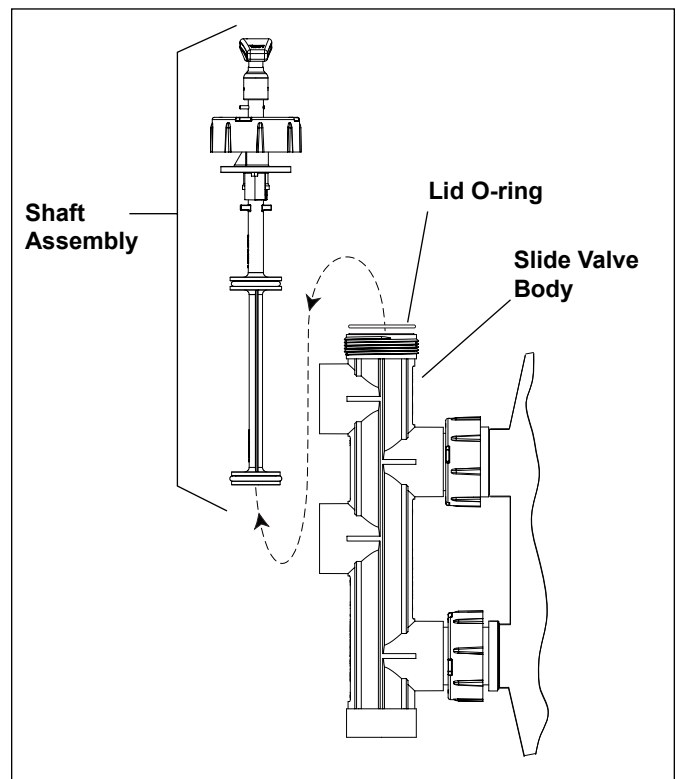

Figure 2. Remove Slide Valve Shaft Assembly
3. Grab the existing slide valve handle and pull the shaft assembly out of the valve (see Figure 2).
4. Remove the existing lid o-ring (see Figure 2).